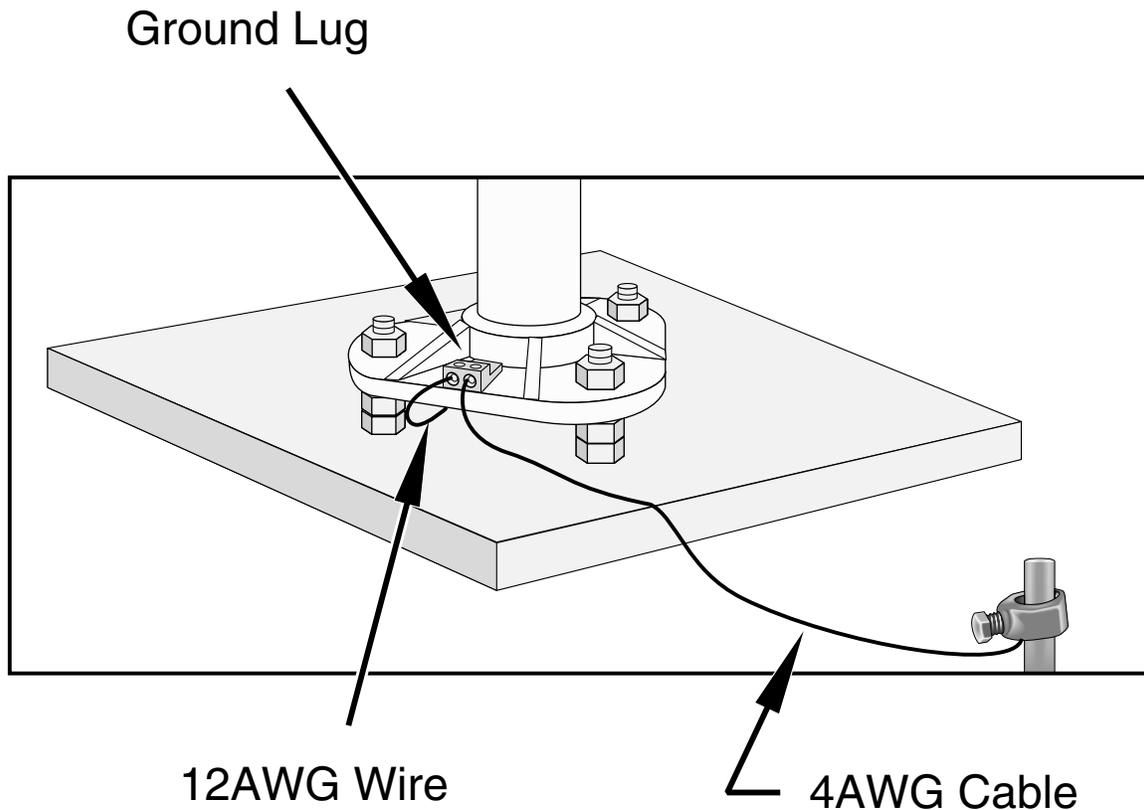

Figure 12
Attach the tower to the base as shown in Figure 12.
Ground the tower as shown in Figure 12.
3. Strip 1 inch of insulation from both ends of the 4 AWG ground cable. Strip 1 inch of insulation from the lower end of the 12 AWG ground wire. Install the tower grounding lug to the tower base with the 7/16 bolt provided (Figure 12). Loosen the lug's set screw and insert the 4 AWG and 12 AWG wire. Tighten the set screw.
4. Loosen the ground rod clamp. Insert the 4 AWG wire. Tighten the clamp (Figure 12).